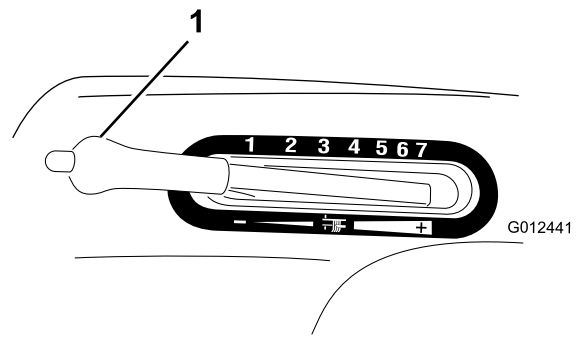

Figure 8
1. Push and hold in the button on the height-of-cut lever (Figure 8).